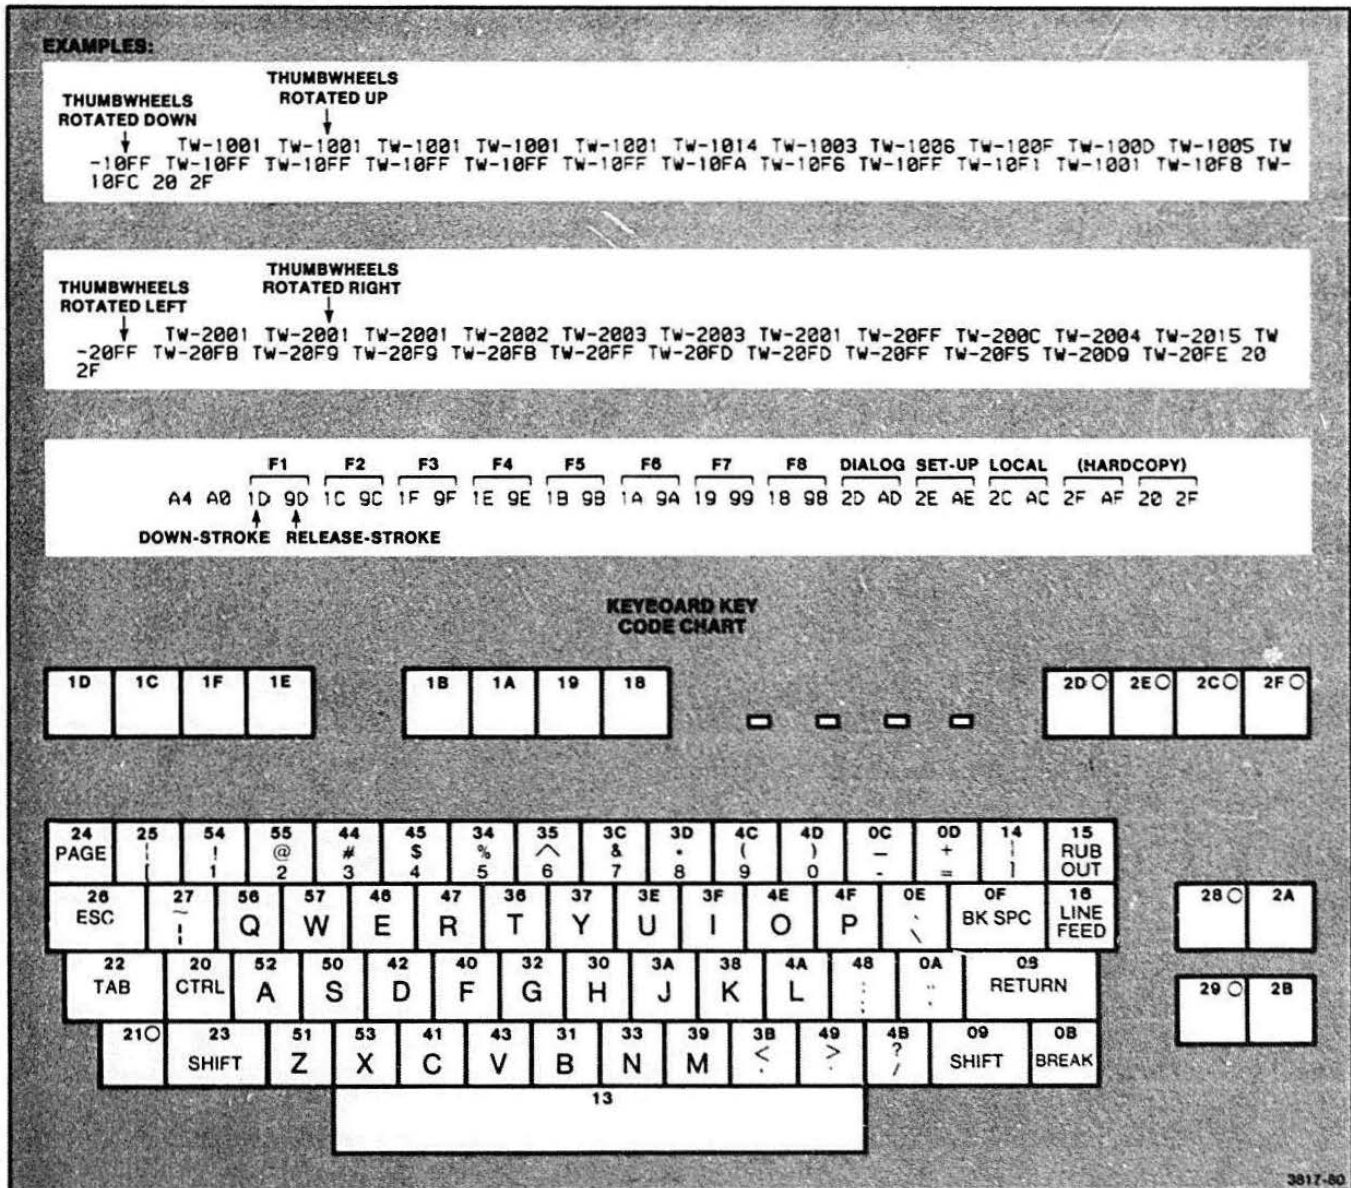

Figure 2-3. Keyboard Key Codes
9. Now press F2 again. This procedure can be used to verify that all keyboard keys are functioning properly. When a key is pressed, a unique 2-digit hexadecimal character is printed on the screen. When the key is released, a different 2-digit character is displayed. These codes are unique for each key stroke and may be used to verify the functioning of each key. Compare the displayed codes for each key with the corresponding codes in Figure 2-3.